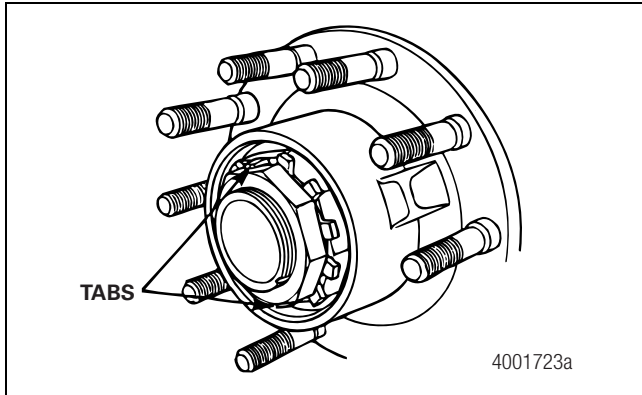

Figure 3.33
11. Use a tool to bend two lock washer tabs over the opposite flats of the outer nut. Keep the tool securely on the tabs. If the tool slips off the tabs, you could damage the hub outer seal. Figure 3.33.